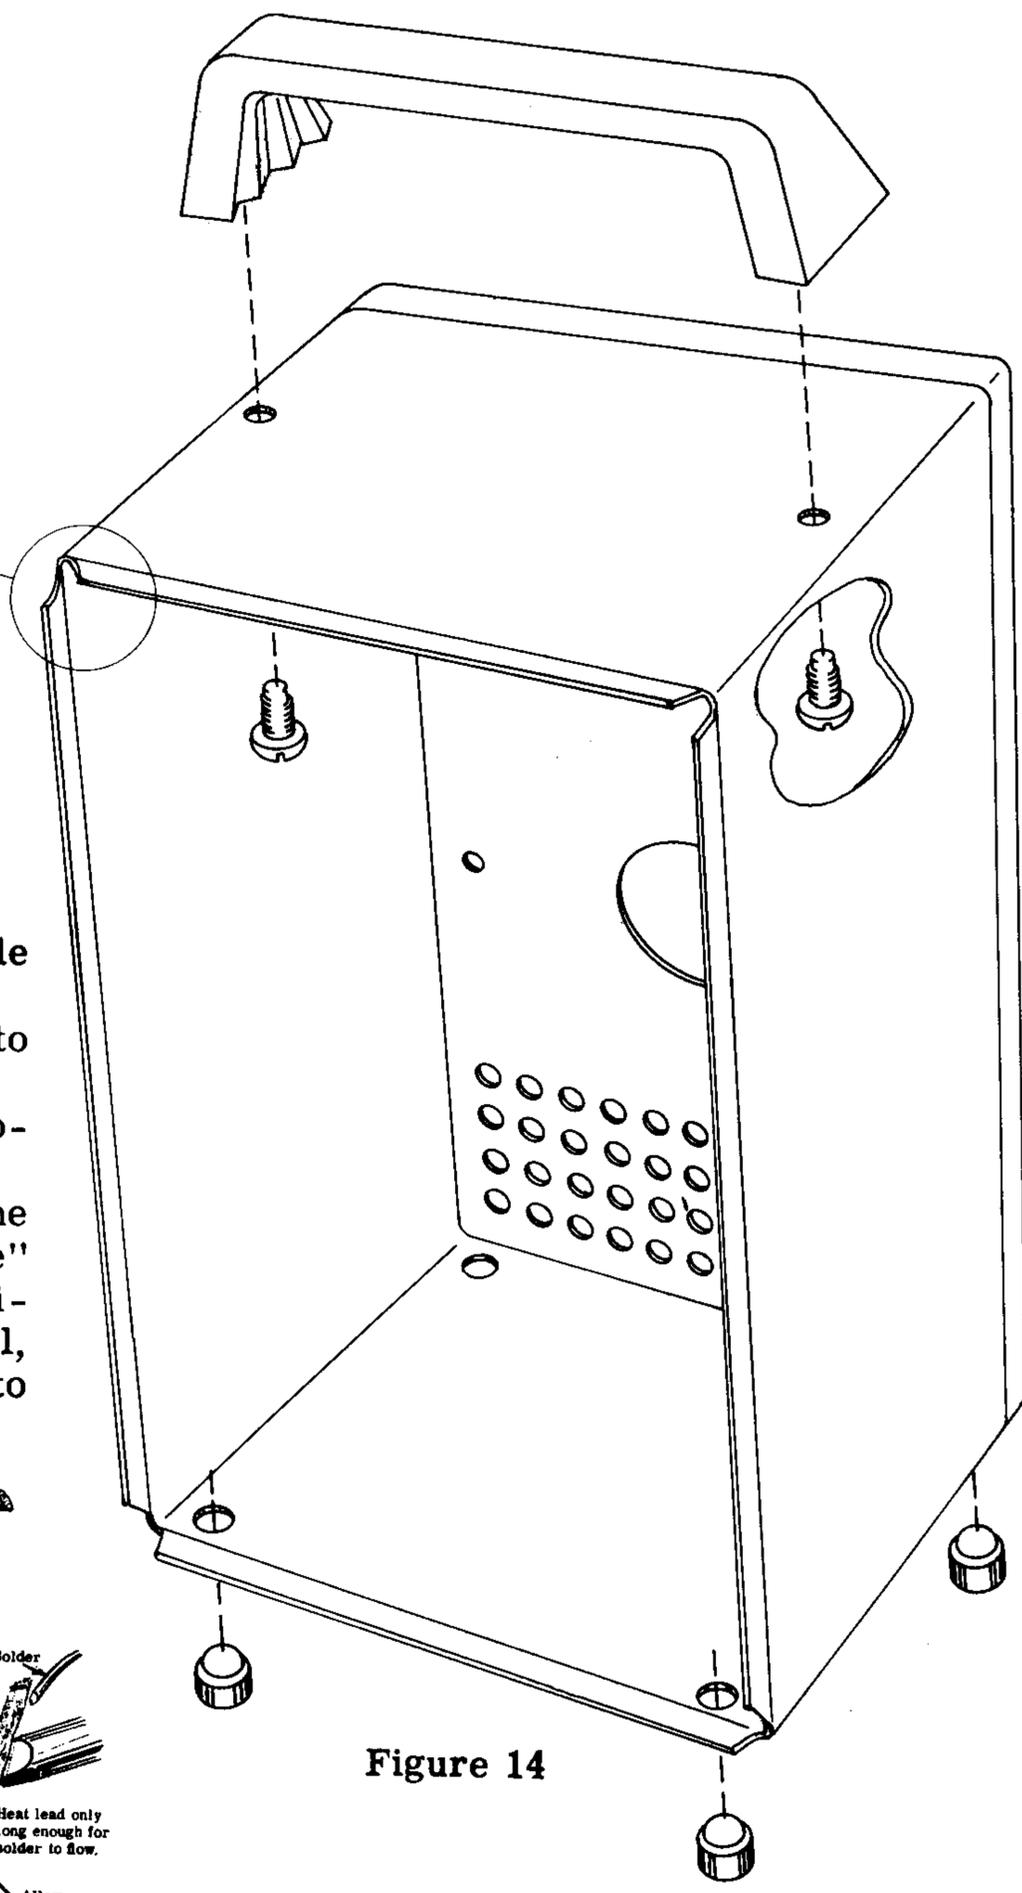

Figure 14
- () Using the #10 screws, secure the handle to the cabinet. Refer to Figure 14.